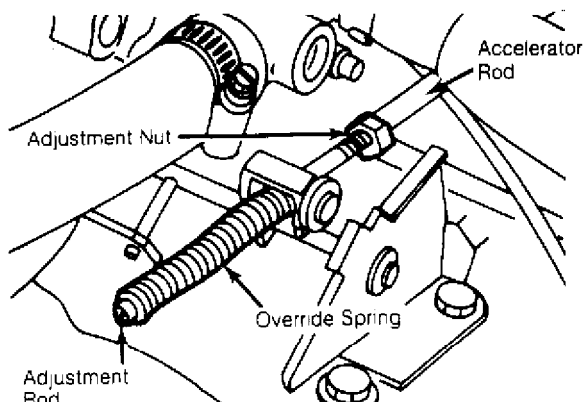

Fig. 5: Adjusting Vanagon Accelerator Rod
3) Loosen adjustment nut and remove override spring. See Fig. 5. Start engine and readjust idle speed, if necessary. Turn engine off.